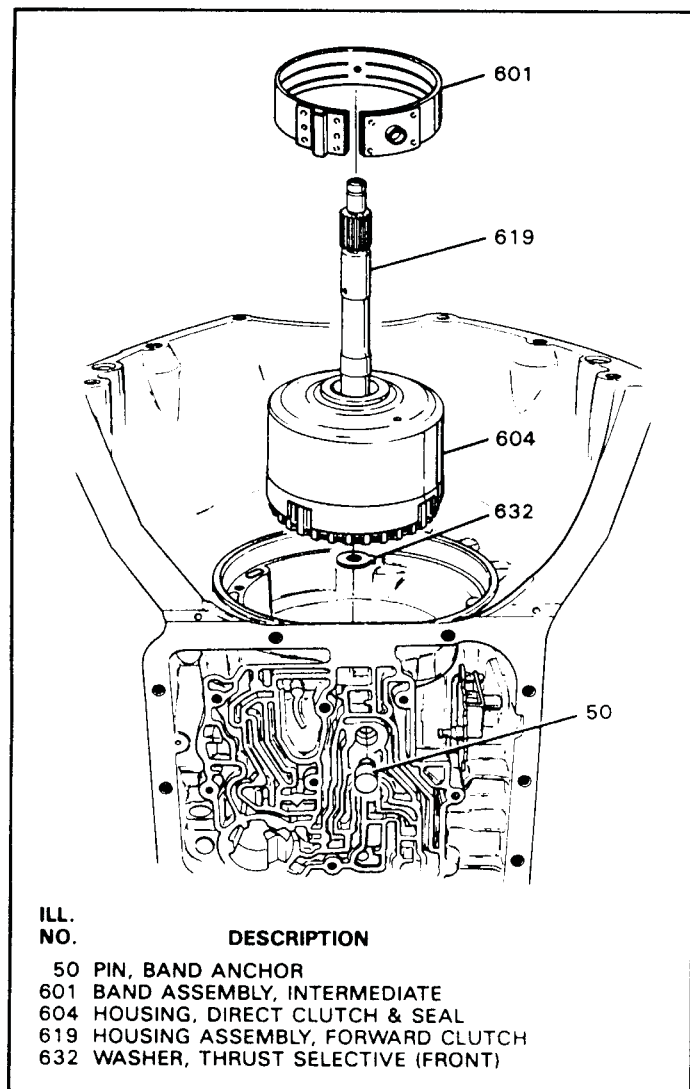

Figure 47
7. Grasp the turbine shaft and lift out the forward clutch housing, and the direct clutch housing as one assembly (See Figure 47).
8. Remove the band anchor pin (See Figure 47).
9. Remove the intermediate band assembly, shown in Figure 47.
10. Remove the output shaft to turbine shaft front selective thrust washer (See Figure 47).